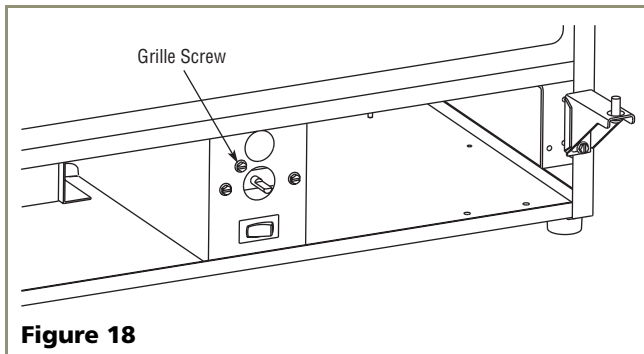

Figure 18
1. Locate and remove the grille screw from the cabinet, using a standard blade screwdriver (or a 1/4" nutdriver). See **Figure 18**.